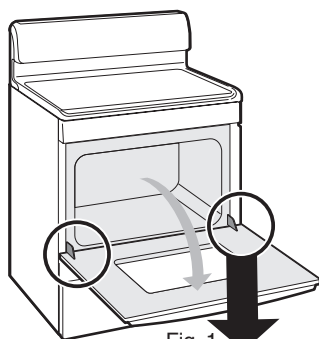

Fig. 1
2. Remove broiler pan & insert (See Fig. 1).
6. Place broiler pan on rack; make sure the broiler pan with the insert is positioned as shown (See Fig.1). Be sure front of pan is positioned correctly in rack.
1. Open oven door completely (horizontal with floor - See Fig. 1).